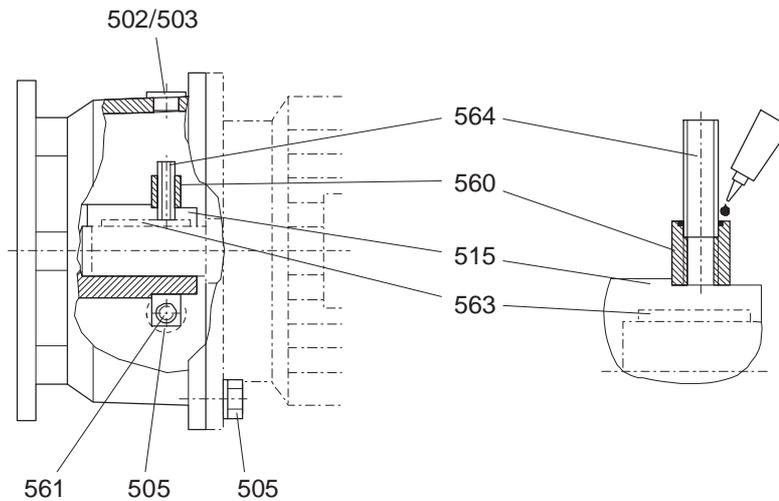

Figure 6.11.2–3: Coupling lantern with clamping ring
- 3) Coat the set screw, part 564, with adhesive (medium-strength, e.g. Loctite 243), see figure 6.11.2–3 “Coupling lantern with clamping ring”.